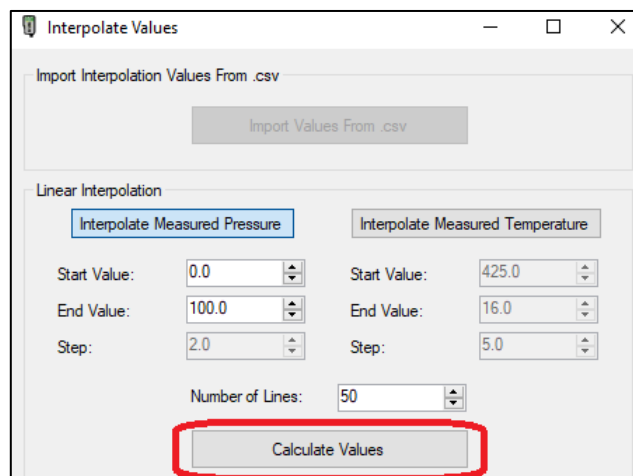

FIGURE 6-28 HHT TEST PATTERN GENERATOR SOFTWARE –MP INTERPOLATION (# OF LINES)
STEP 2	Click on the “Calculate Values” button, to generate the set of IRDI messages – see Figure 6-28 below.